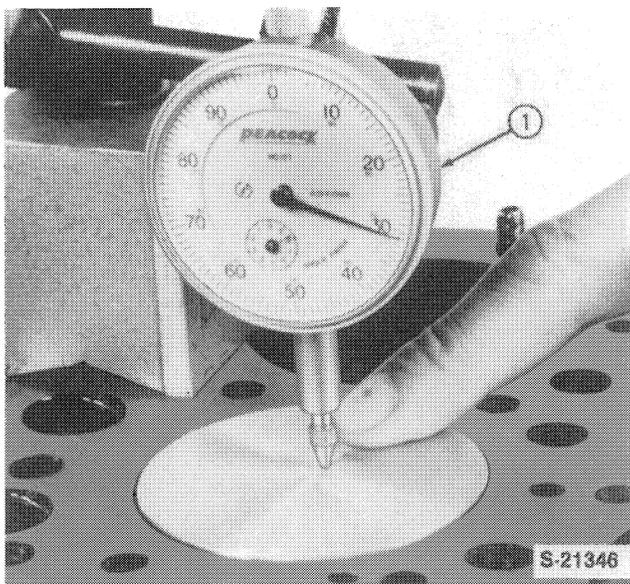

FIGURE 1-45
1. Position each of the pistons in turn at top-dead-center. Using a dial indicator determine the distance each piston protrudes on the Model GT65 or the depth on the Model GT75 from the face of the block while holding down pressure on the piston as shown in Figure 1-45.